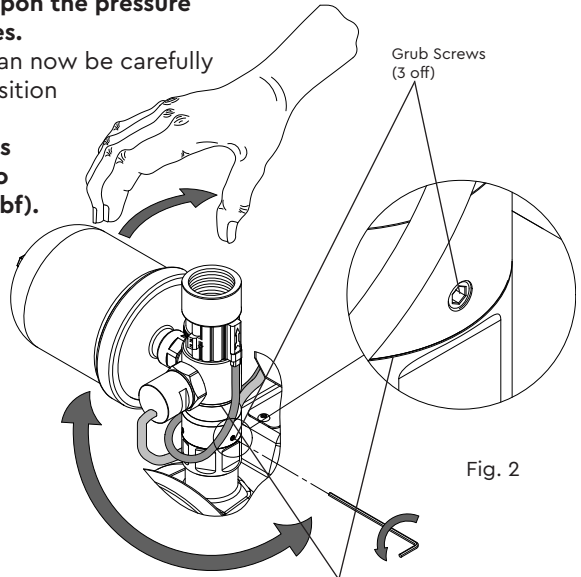

Fig. 2
- b) Using a 2 mm allen key, carefully loosen all three retaining grub screws by two turns (Fig. 2).